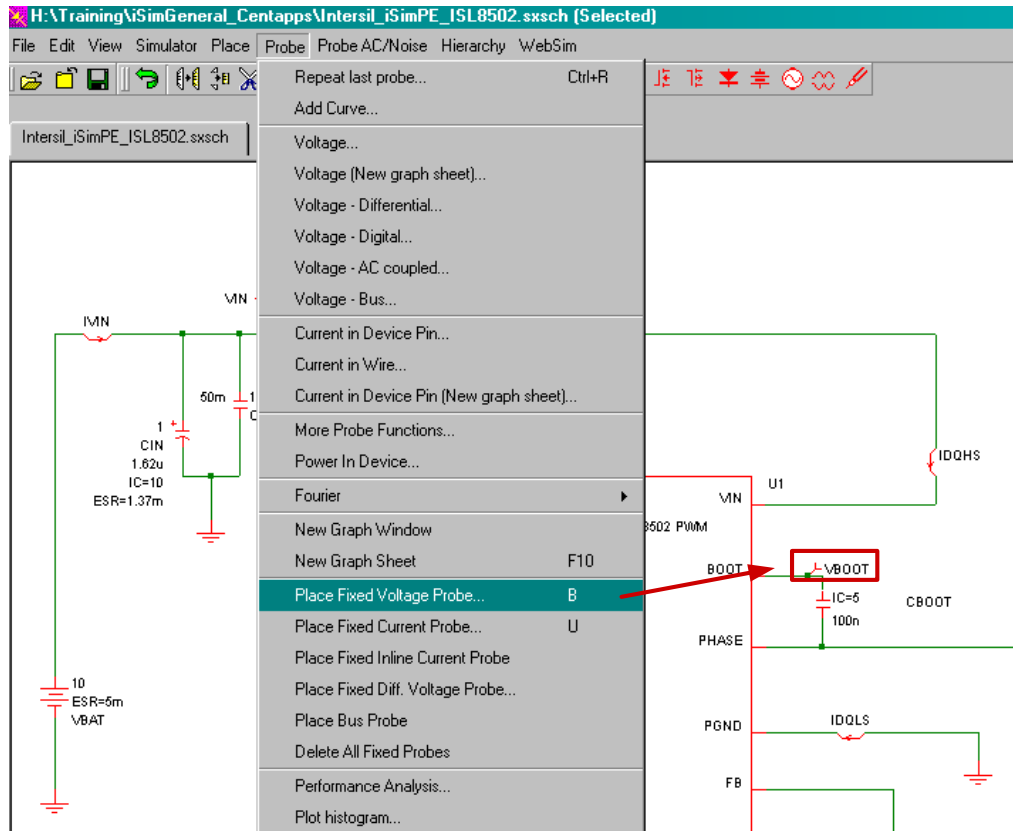

FIGURE 20. PLACE FIXED VOLTAGE PROBE
1. Fixed voltage probe - plots single-ended voltage. Go to **Probe** -> **Place Fixed Voltage Probe** as shown in Figure 20, and put it at the node you want to look at.